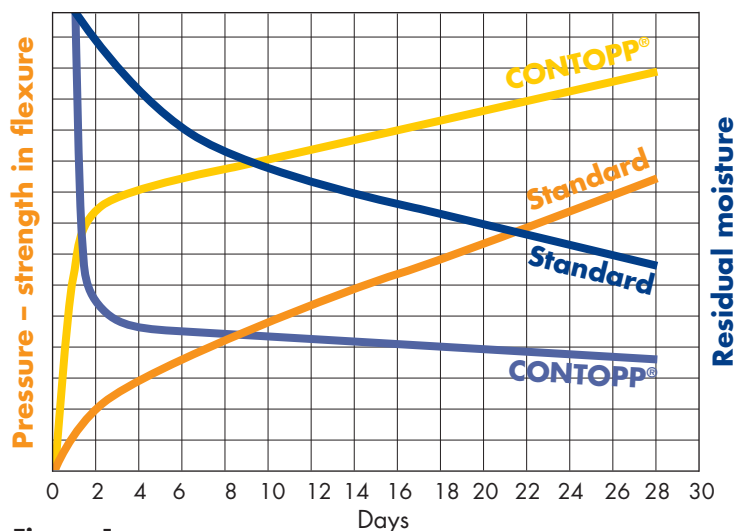

Figure 1
- By combining products of the CONTOPP® range, properties like drying course, strength and processing are positively influenced (fig. 1).